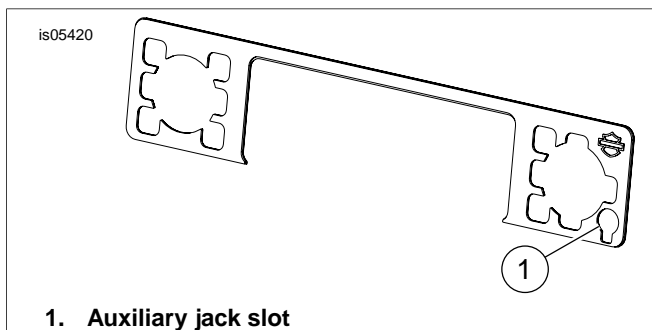

Figure 3. Radio Faceplate Trim
1. See Figure 3. Test the fit of the radio faceplate trim before removing the adhesive backing.
3. Open the auxiliary jack cap and feed it through the radio faceplate trim (1). Position radio faceplate and press firmly into place.